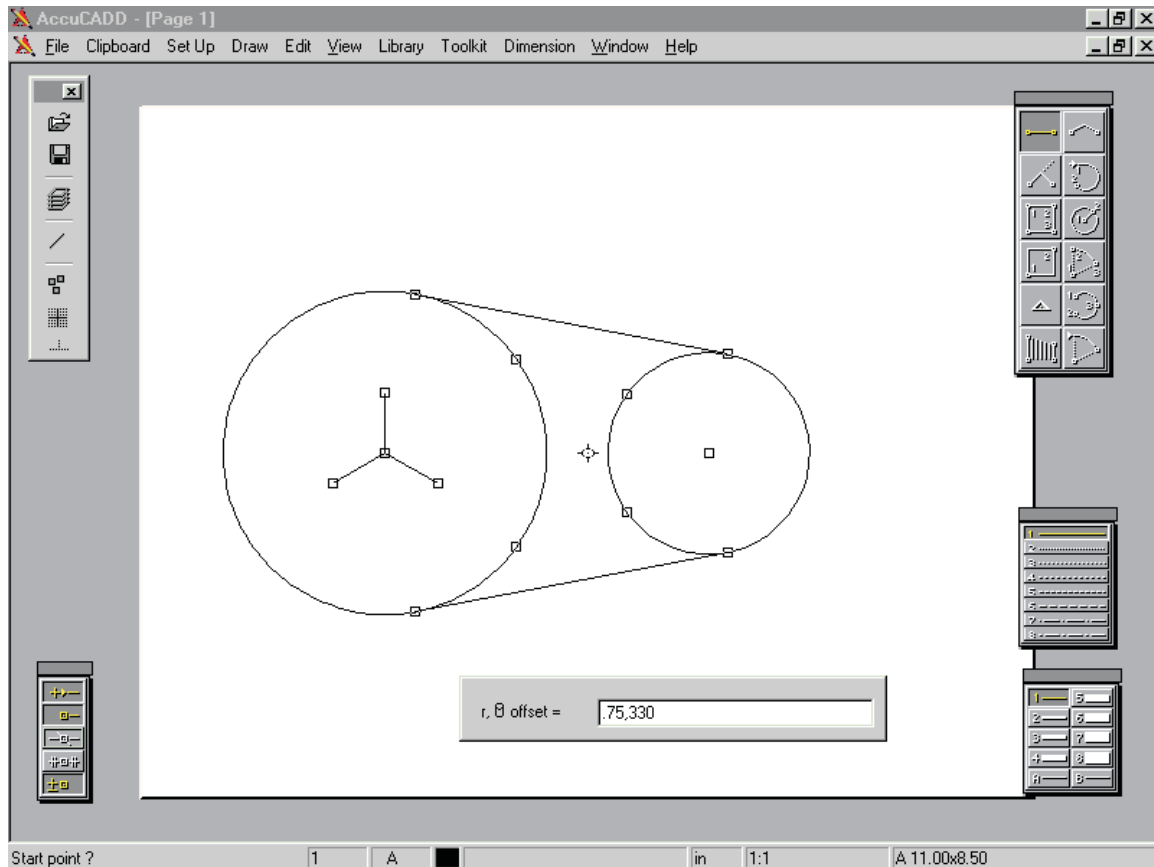

Figure 33: Drawing radials with the polar command
□ Set datum by touching the center of the left-hand circle; key in Polar, followed by .75,90 then Enter to draw the vertical radial, as Figure 33 (the first entry, .75 is length in inches, and 90 is the number of degrees clockwise rotation from West).